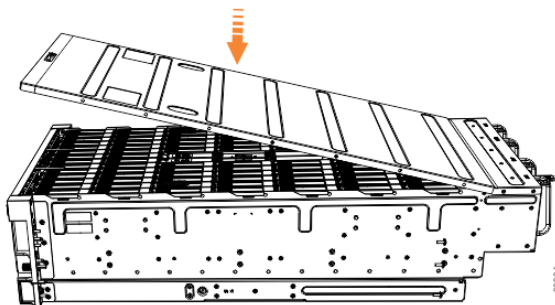

Figure 78. Aligning the top cover
1. Carefully lower the cover and ensure that it is aligned correctly with the back of the enclosure, as shown in Figure 78 on page 66.